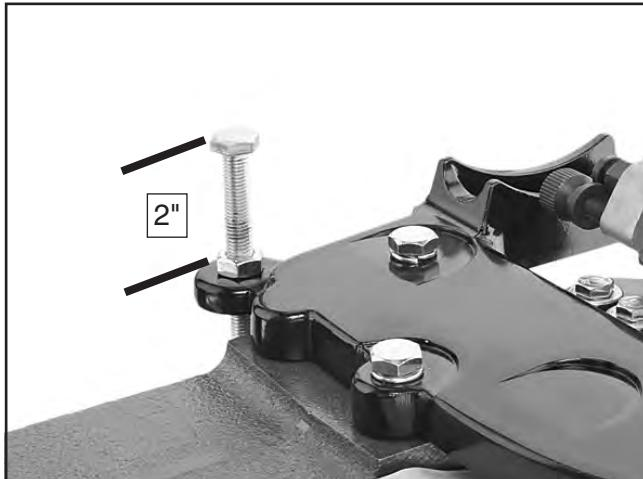

Figure 15. Positive stop installed.
- 10.** Thread the remaining M8-1.25 hex nut onto the M8-1.25 x 80 positive stop hex bolt, then thread the bolt into the trunnion so that approximately 2" protrudes above the trunnion (see **Figure 15**). This will allow the table to rest approximately level when it is installed during the following steps.